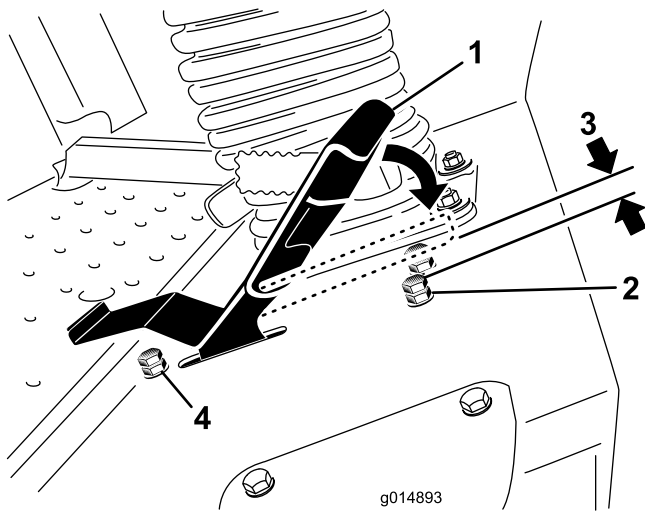

Figure 60
3. Loosen the jam nut on the stop bolt for the traction pedal (Figure 60).